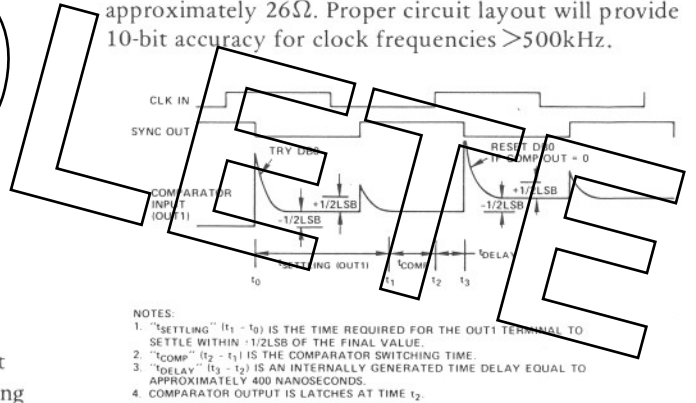

Figure 8. Expanded Timing Diagram
For 10-bit accuracy, the first MSB must settle to within 0.1% of final value; the second MSB to within 0.2%. The LSB settling requirement is only 50% of the LSB value. Figure 8 illustrates the settling time available during a given clock period. The pulse shown on the OUT1 terminal falling midway between t_0 and t_3 is a feedthrough from internal clock mechanisms and is due primarily to bonding wire and header capacitance. Two methods may be used to reduce the OUT1 settling time:
1. Load OUT1 with a 1k resistor. This reduces the time constant by a factor of 10. Further reduction of the 1kΩ load reduces the amount of comparator overdrive, thus increasing the comparator propagation delay, resulting in a reduction of available settling time ($t_1 - t_0$ on Figure 8).